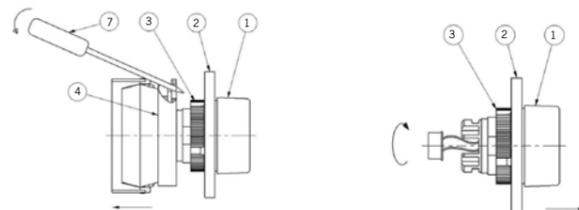

Fig. 4
- 1) First, put a flat screwdriver (5) in the hole located in the lug of the intermediate body (4), prise slightly and bend the body away from the indicator (fig. 4).